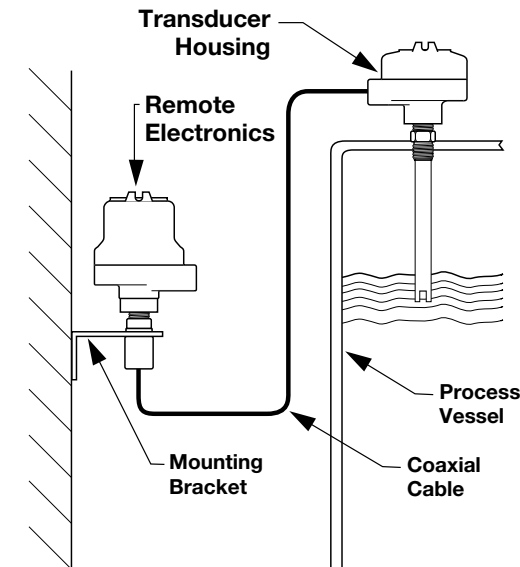

Figure 13
7. Run coaxial cable from transducer or remote transducer termination board through the bottom housing connection, as shown in Figure 13 below.